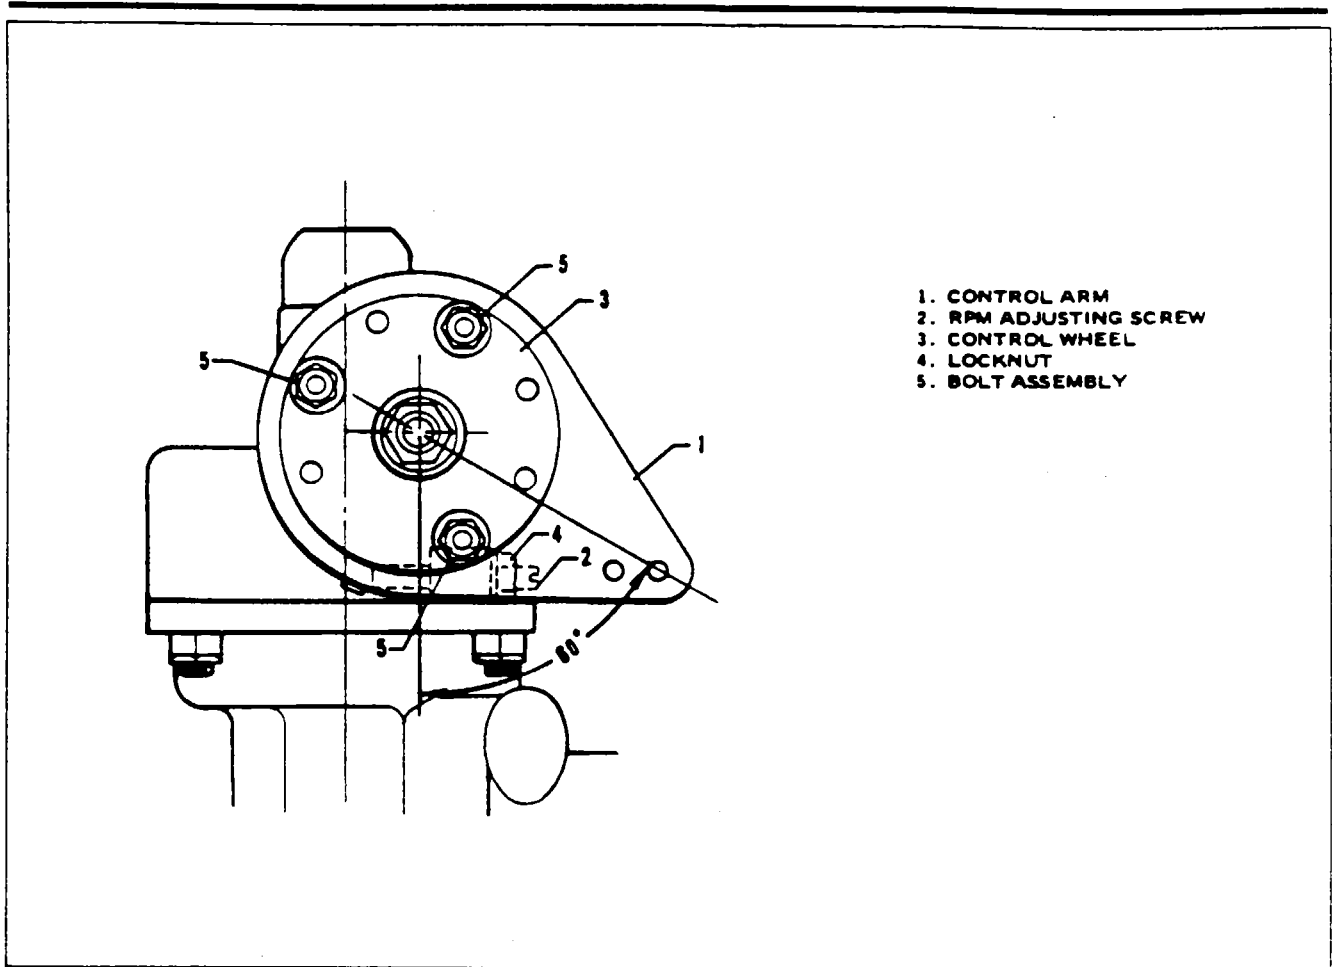

Figure 61-3. Propeller Governor
RIGGING AND ADJUSTMENT OF PROPELLER GOVERNOR. (Refer to Figure 61-3.)
- E. Ascertain that the governor control arm is adjusted to the proper angle on the control wheel as shown in Figure 61-3.